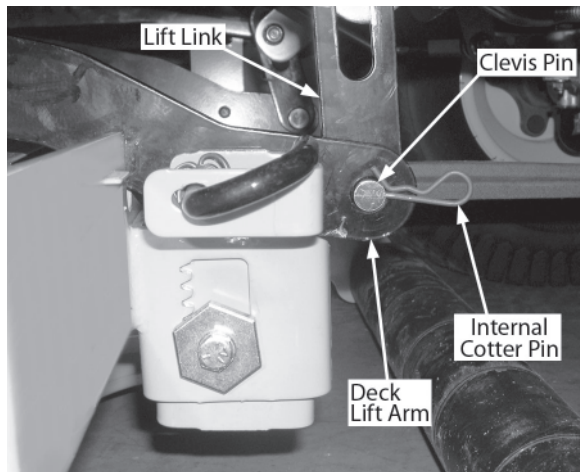

Figure 3-18
- Make certain the tractor lift links are positioned inside of the deck frame lift arms. If they are not, lift and pivot the lift links and position inside of the lift arms. Refer to Figure 3-18.
- Align the lift link and lift arm holes on either side of the tractor and insert the clevis pin through the lift link and lift arm. Secure with the internal cotter. See Figure 3-18. Connect the lift link and lift arm on the other side of the tractor in the same manner.
- Pivot the idler bracket handle fully rearward and hold in position while routing the backside of the left run of the V-belt around the inside of the flat idler pulley. See Figure 3-18.